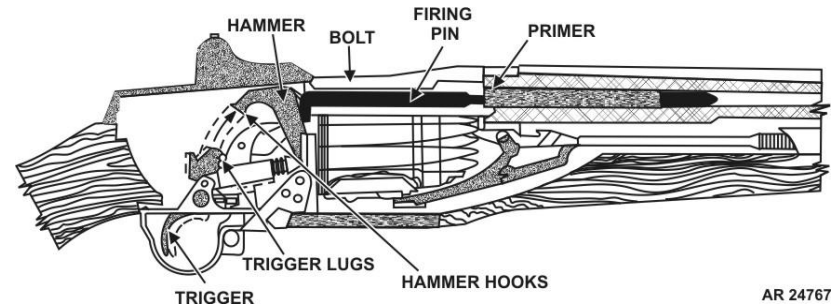

Figure 58. Firing
- 4) **Firing.** Firing occurs when the firing pin strikes the primer. As the trigger is pulled the trigger lugs are disengaged from the hammer hooks and the hammer is released. The hammer moves forward under the force of the hammer spring and strikes the tang of the firing pin, driving the firing pin against the primer and firing the round (fig 58).